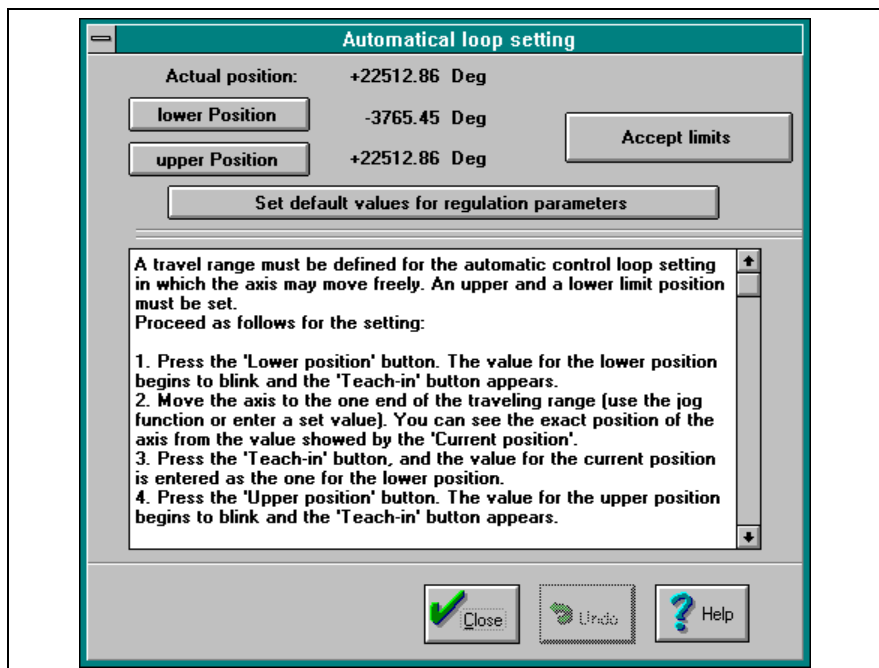

Fig. 10-12: Dialog 1 "automatic control loop settings" in DriveTop
- 3) To be able to make any other settings, use DriveTop prior to startup to open the dialog automatic control loop setting (Fig. 10-12).